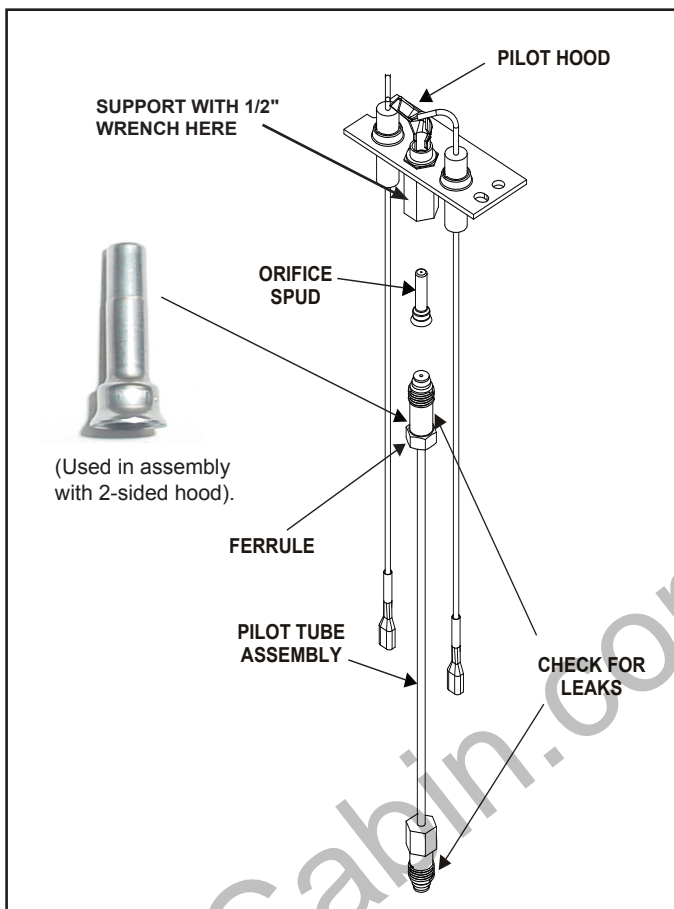

Figure 8 Pilot Assembly Detail
15. Remove the pilot assembly by removing the two (2) screws.
16. Locate the ferrule fitting located beneath the pilot assembly and with a 7/16" wrench, loosen the nut to remove the pilot tube. For better leverage, support the base of the pilot with a 1/2" wrench. See Figure 8. Remove the pilot spud and replace with the pilot spud included in the kit. Insert the pilot tube into the ferrule fitting and tighten the nut to secure pilot tube to the pilot assembly.
22. Use a commercially available, non-corrosive leak check solution to test for leaks around the pilot. Be sure to rinse off all leak check solution following testing. See Figure 8 for leak check points. Extinguish the pilot. Turn fireplace OFF.